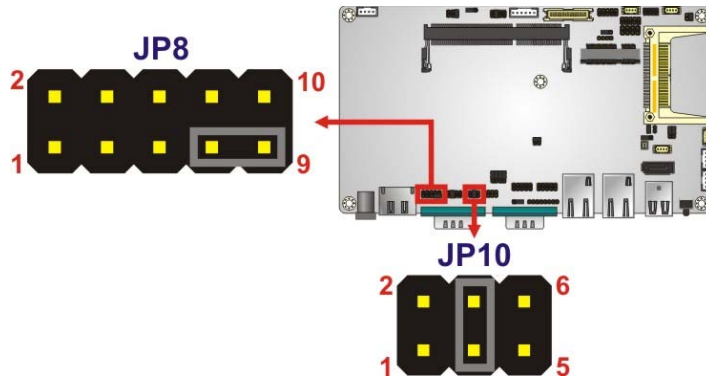

Figure 2-6: COM1 and COM3 Pin 9 Setting Jumper Locations
- Jumper Location:** See Figure 2-6
The COM1 and COM3 Pin 9 Setting jumper locations are shown in Figure 2-6 below.